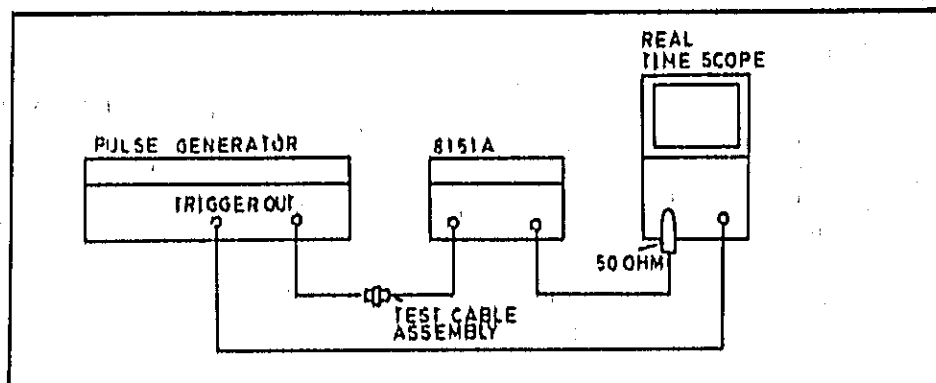

Figure 5-1
1. Connect equipment as shown in figure 5-1.